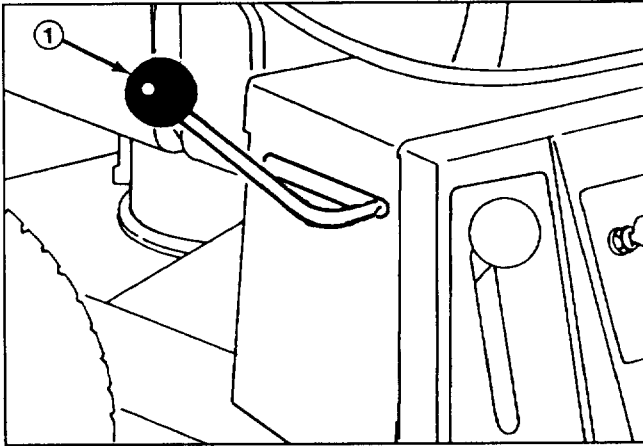

Figure 7
**Gear Shift (Fig. 7)** – Transmission has five forward speeds, neutral and reverse. Single lever in-line shifting with “Z” pattern located at right side of operator. An interlock switch, which prevents engine from being started when transmission is in gear, is mounted on top of transmission.